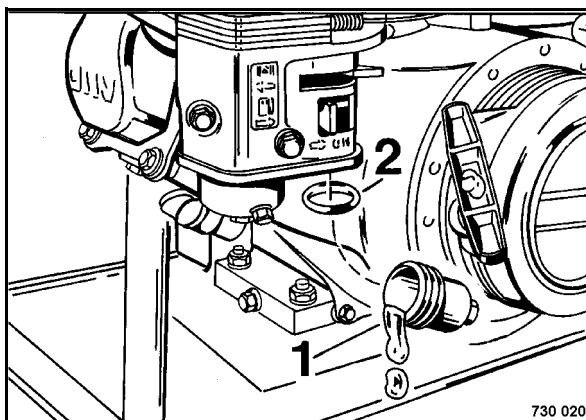

Fig. 45
- Close the fuel cock, unscrew fuel sludge filter 1 (Fig. 45) and wash it out with gasoline.
- Turn the fuel sludge filter in tightly and mind the O-ring (2).